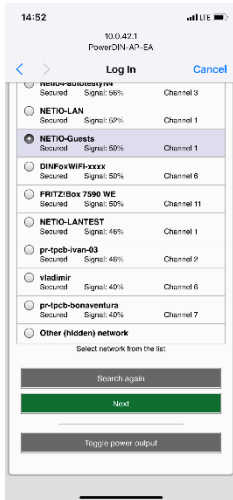

Figure 3
- 4) Select your network in the list of detected networks and press "Next". (Figure 3)